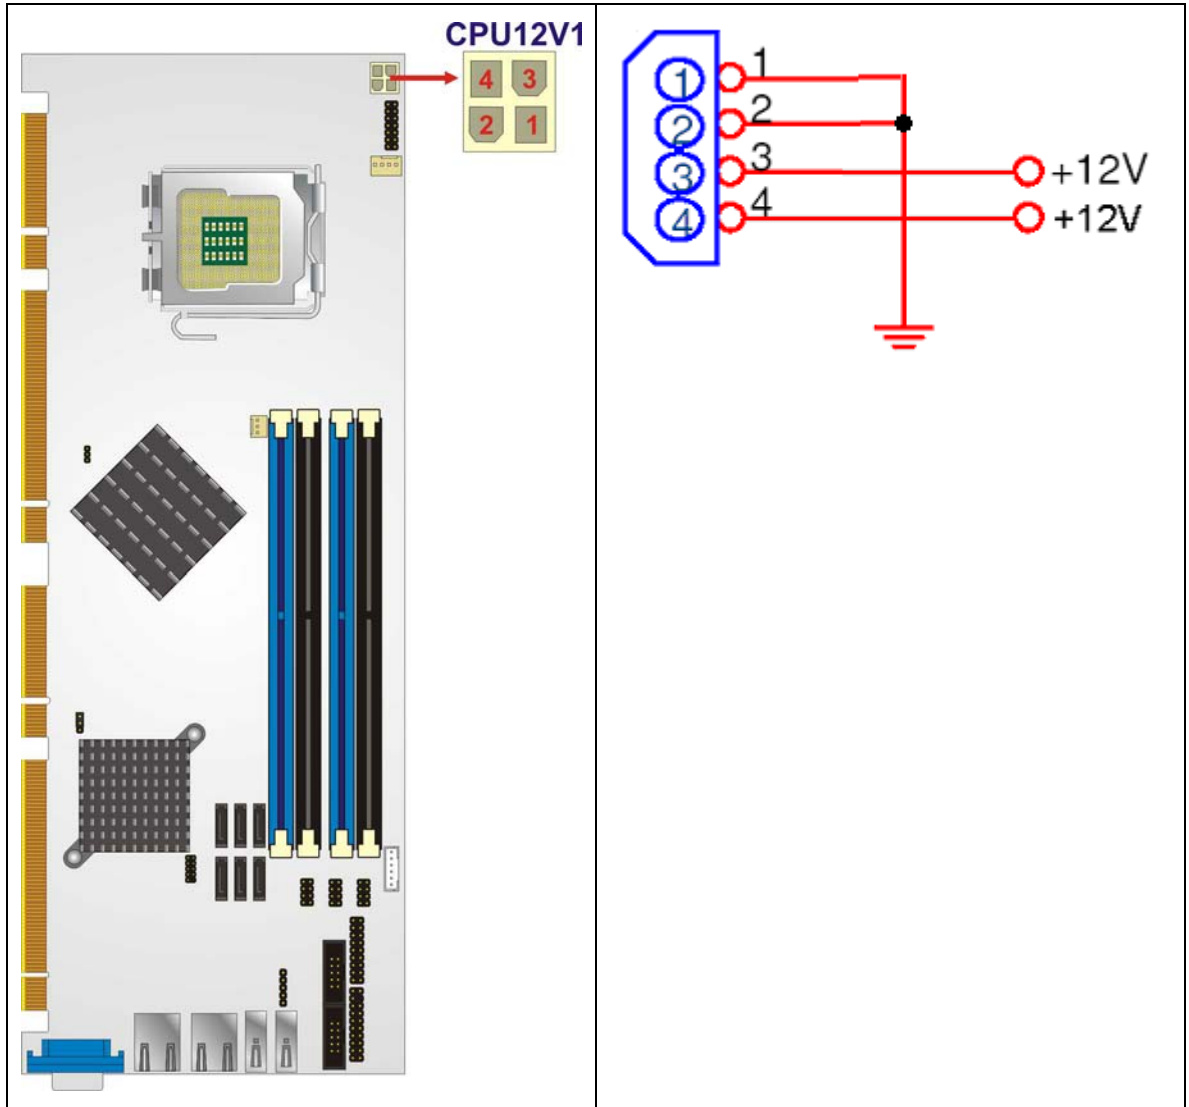

Figure 4-2: ATX Power Connector Location
- CN Location:** See Figure 4-2